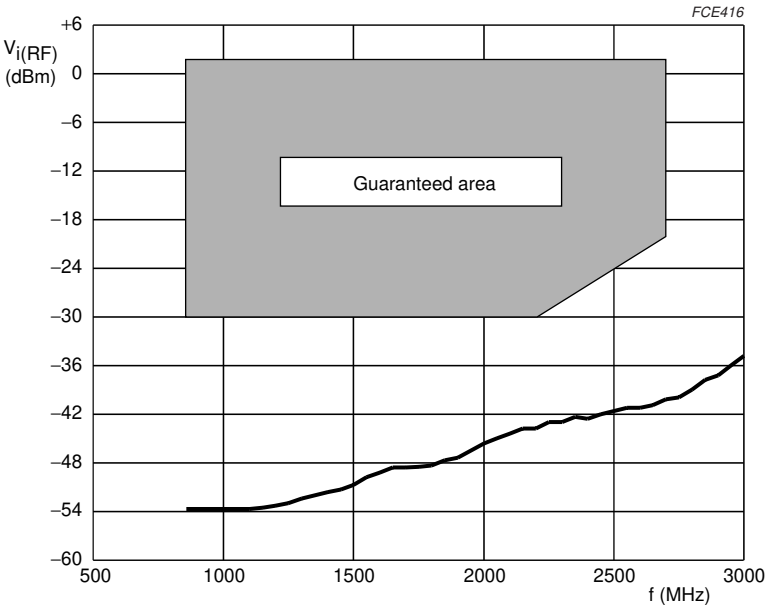

Fig.3 Sensitivity curve.
1. Asymmetrical drive on pin RFA or RFB; see Fig.3.